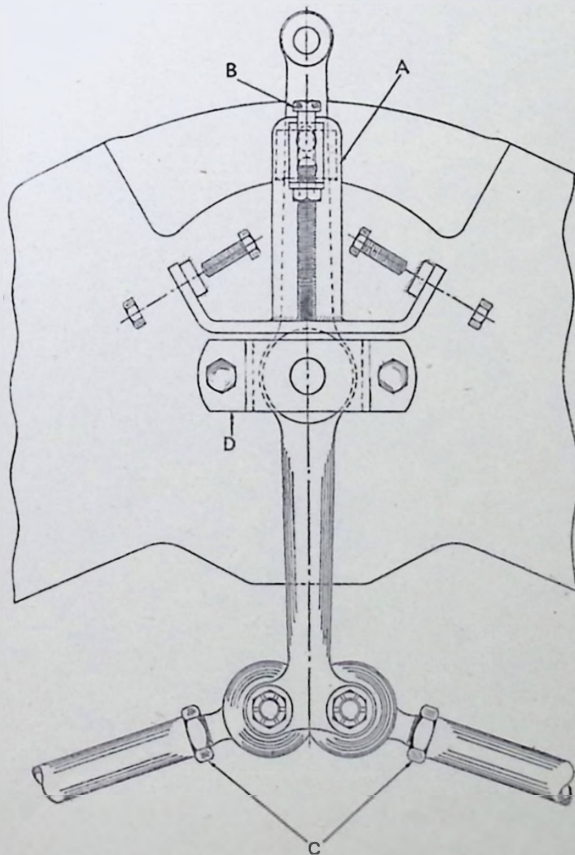

Fig. 1.
- (1) Check that the front tyres are inflated from 26 to 28 lbs. per square inch and set the front wheels in line with the rear wheels.
- (2) Check that the Thompson Joints, or sockets at the ends of the track rods between the steering arms and the central steering lever are in good condition, *i.e.*, without undue slogger.
- (3) Remove the lock stops and fit the central steering arm locating jig, Service Part No. 24082N, see Fig. 1, Page FZ3 as shown in the diagram.
- (4) Release the lock nuts A *Fig. 1, Page FZ3* at each end of centre tube of the track rod. The inner and outer ends of the Tie rods are machined with a right and left hand threads, so that by gripping and turning the centre tube either to the right or to the left, the length of the rods can be altered to give the correct setting to the wheels, i.e., a total of $\frac{3}{16}$ " (4.76 mm.) for both wheels or $\frac{3}{32}$ " (2.38 mm.) for each wheel.